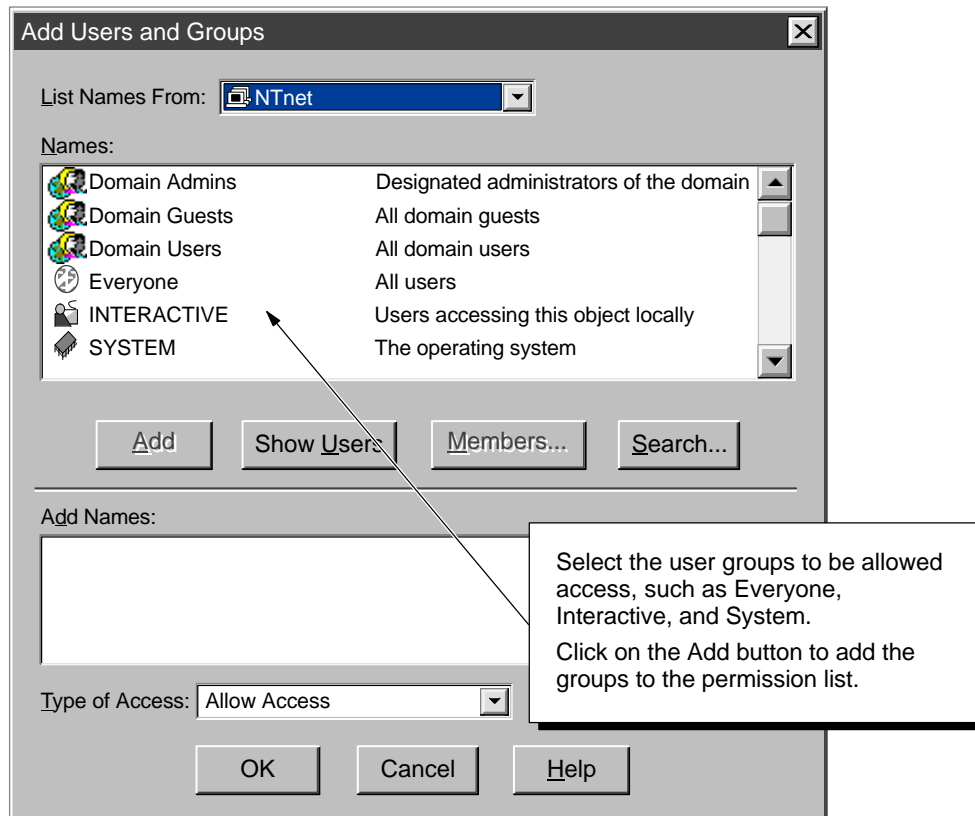

Figure D-17 Changing the Launch Permissions for Users or Groups
2. Click on the Add button to display the Add Users and Groups dialog box and change the security settings for access to the server. See Figure D-17.
3. In the “Names” field of the Add users and Groups dialog box (Figure D-17), select “Everyone” (or the appropriate subset of users) and click on the Add button.